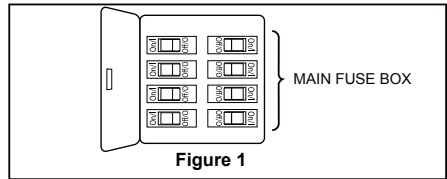
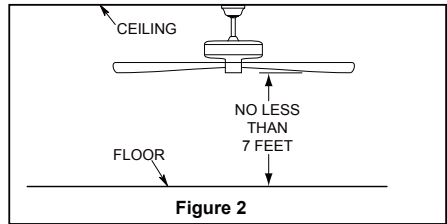

Figure 1
Figure 2
Your new ceiling fan will require a grounded electrical supply line of 120 volts AC, 60 HZ, 15 Amp Circuit. Electrical code requires use of a fan-rated outlet box to support the extra weight and motion associated with a ceiling fan. A fan-rated box will be labeled as such and typically supports up to a 70lbs ceiling fan. Fan-Rated Outlet Boxes vary in ratings and design. Ensure the ratings of your ceiling fan outlet box meet the requirements for the ceiling fan being installed. Figure 1, Figure 2 and Figure 3 depicts different structural configurations that may be used for mounting the outlet box.
### Low-profile use (Figure 1)
### Deep-profile use (Figure 2)
1. Remove and discard the three rubber/screws motor stops from the motor assembly. (Figure 1)
2. Remove the hanger ball portion from the downrod/hanger ball assembly by loosening the set screw in the hanger ball until the ball falls freely down the downrod. Remove the pin from the downrod, then remove the hanger ball. Retain the pin and hanger ball for reinstallation in Step 7. (Figure 2)
To avoid possible fire or shock, be sure electricity is turned off at the main fuse box before hanging. (Figure 1)
The fan must be hung with at least 7' of clearance from floor to blades. (Figure 2)
1. To set the code on receiver unit, slide dip switches to the same positions as set on the remote control. (Figure 1)
To avoid possible electrical shock, be sure electricity is turned off at the main fuse box before wiring. (Figure 2)
2. Securely attach and tighten the canopy screw cover over the shoulder screws in the hanger bracket utilizing the keyslot twist-lock feature. (Figure 2)
2. Restore electrical power to the outlet box by turning the electricity on at the main fuse box. (Figure 2)